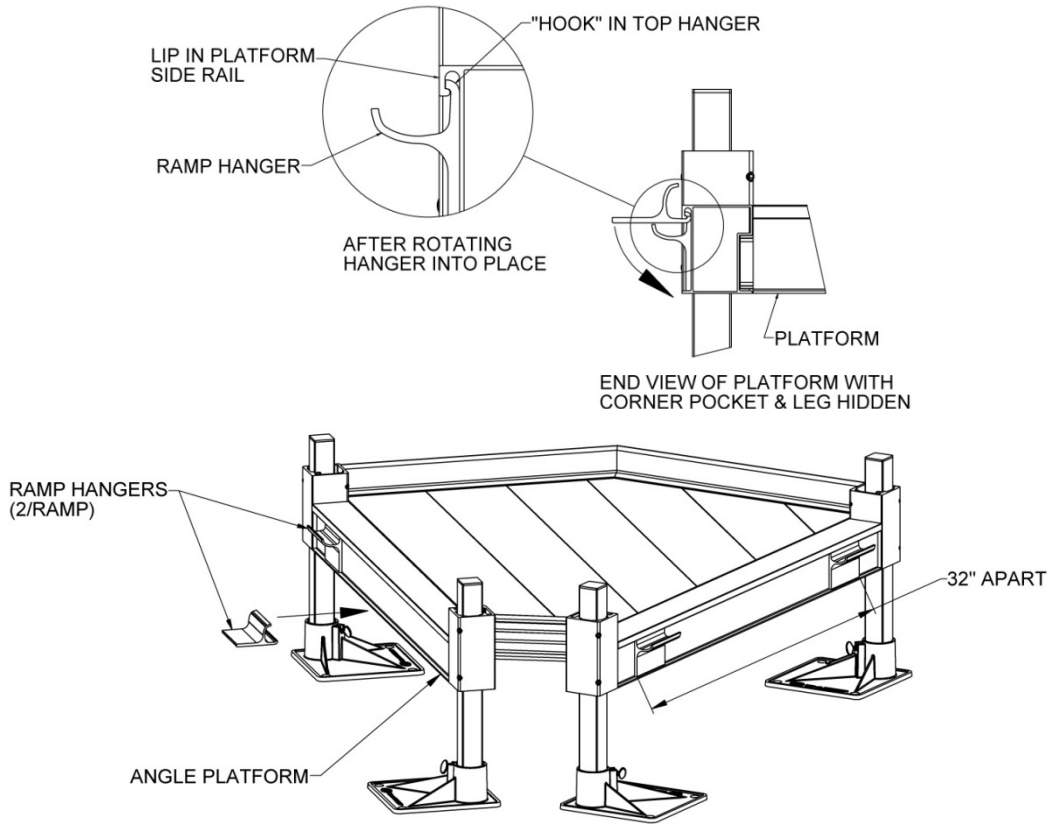

FIG. 2
- 2.1. Locate two Ramp Hanger Pairs (MRHP). Install two ramp hangers (one pair) onto each “long” side of the angle platform where ramps will attach. Place ramp hangers approximately 32” apart (FIG. 2).
- 2.2. Hold the ramp hanger to the platform side rail as shown in FIG 2, and then bring the ramp hanger upward until its “hook” is under the lip in the platform side rail.
- 2.3. With continuing upward pressure, push the bottom of the ramp hanger against the platform side rail, then release, allowing the ramp hanger to slip down and rest inside the ledge at the bottom of the platform side rail (FIG. 2).